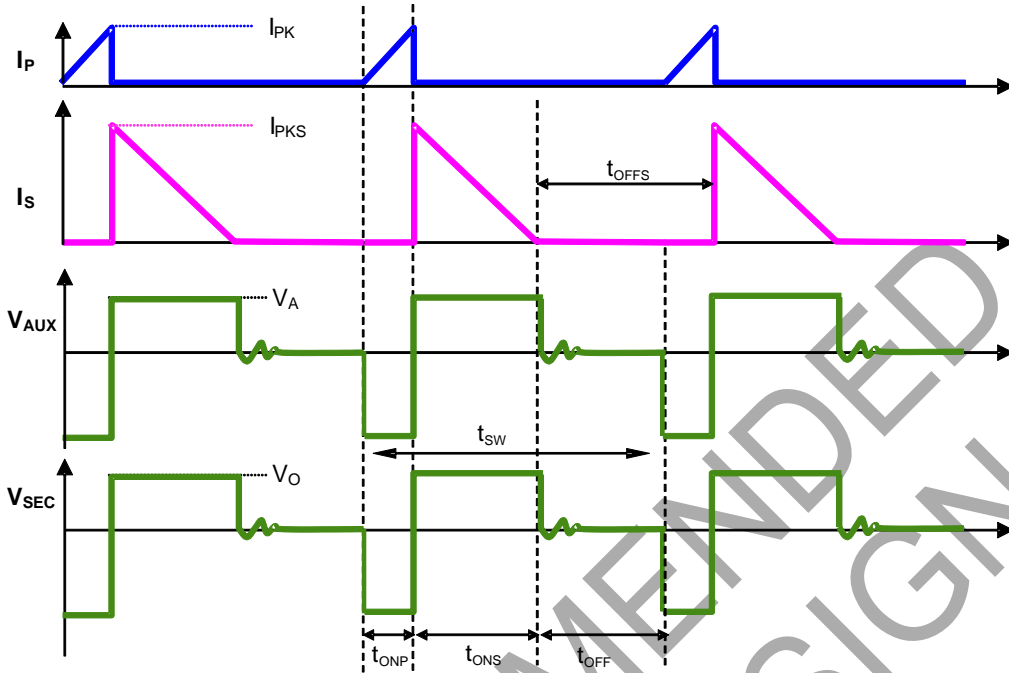

Figure 2. The Operation Waveform of Flyback PSR System
Figure 2 shows the typical waveforms which demonstrate the basic operating principle of AP3987CT application. And the parameters are defined as following.
The AP3987CT can work in Constant Current (CC) mode. Figure 2 shows the secondary current waveforms.
As illustrated in Figure 2, when the current $i_p(t)$ rises up to I_{PK} , the switch Q1 turns off. The constant peak current is given by: